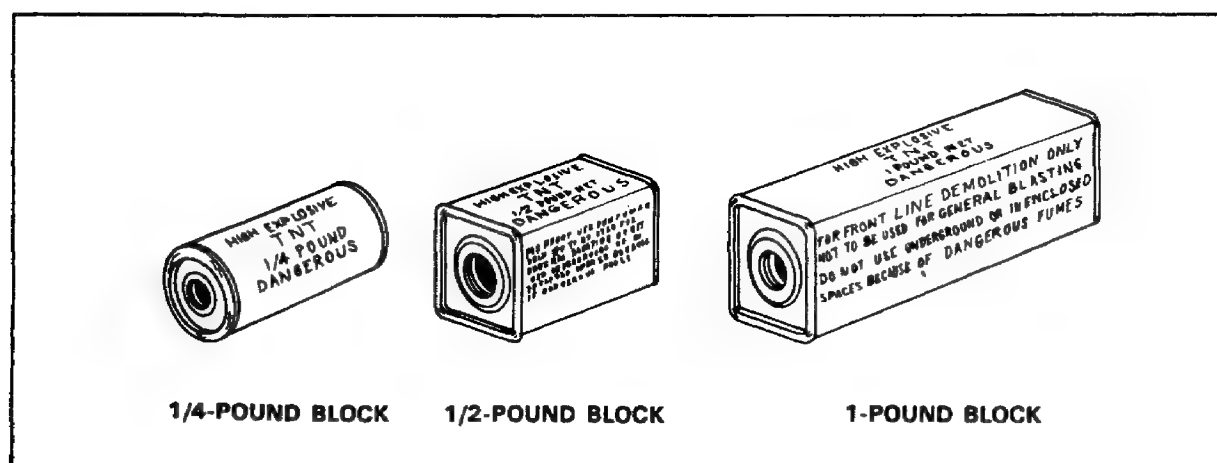

Figure 81. TNT Blocks.
**Trinitrotoluene (TNT).** Trinitrotoluene is one of the most powerful military explosives. TNT blocks are excellent for use in cutting and breaching operations. They are issued in 1/4-pound, 1/2-pound, and 1-pound blocks. See Figure 81.